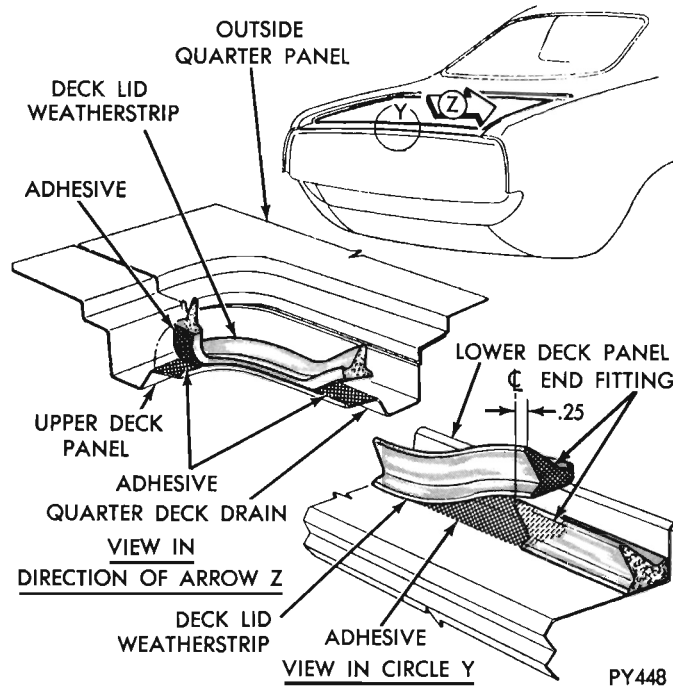

Fig. 46 - Deck Lid Weatherstrip
- (1) Position shield to support deck opening lower panel and housing quarter panel.
- (2) Secure with screw and washer.
**DECK LID WEATHERSTRIP (Fig. 46)**
- (1) Apply a coat of adhesive to weatherstrip contact surfaces.
- (2) Install weatherstrip so that joint will be located at bottom of deck lide opening. (Avoid puckering or stretching of weatherstrip around corners). Trim ends to overlap .25. Apply adhesive to butt surfaces and install under compression to provide a watertight joint.